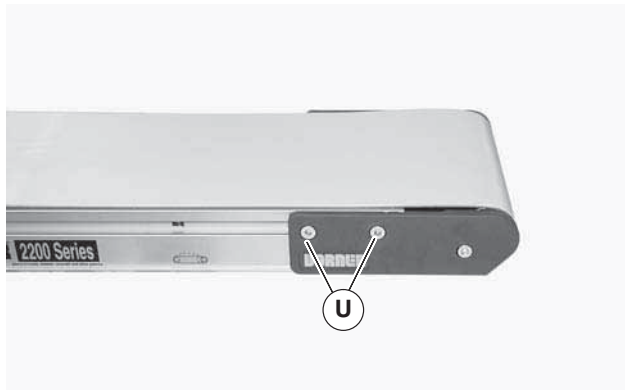

Figure 30
1. On one side of the conveyor, loosen two (2) head plate fastening screws (Figure 30, item U) and remove them.